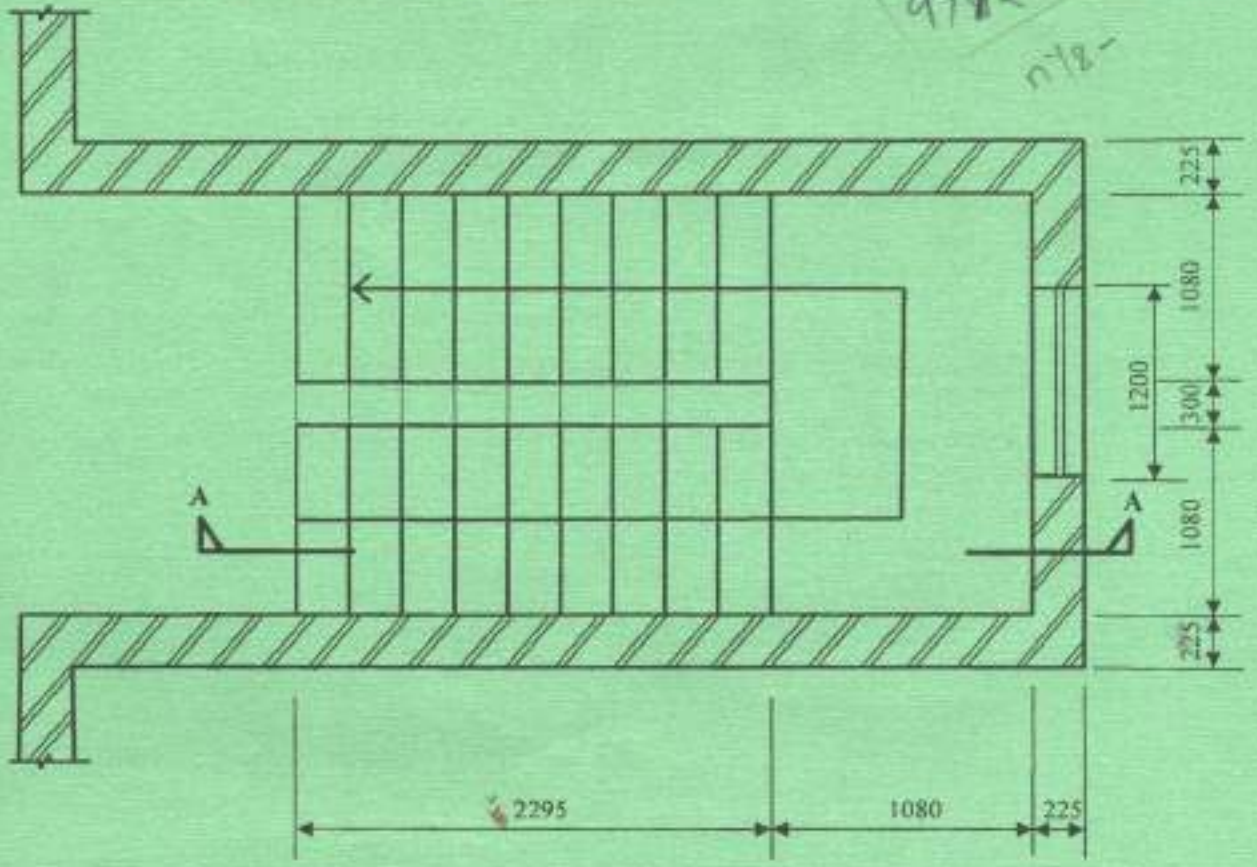

Fig. 2
4. **Figure 2** shows a plan of reinforced concrete staircase. To a scale of 1:20, draw section A-A to show all the details including the reinforcements, given the following information: